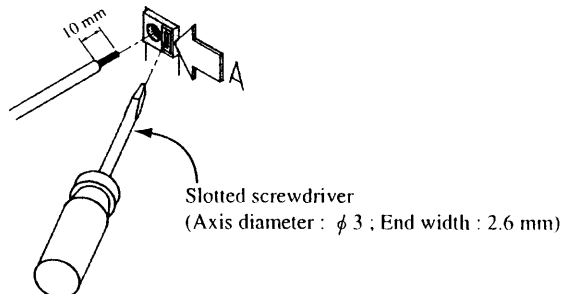

Fig. 2-4 Connection to the SHUT DOWN connector
3. As shown in Fig. 2-4, while pressing Point A with a slotted screwdriver, insert the cable.